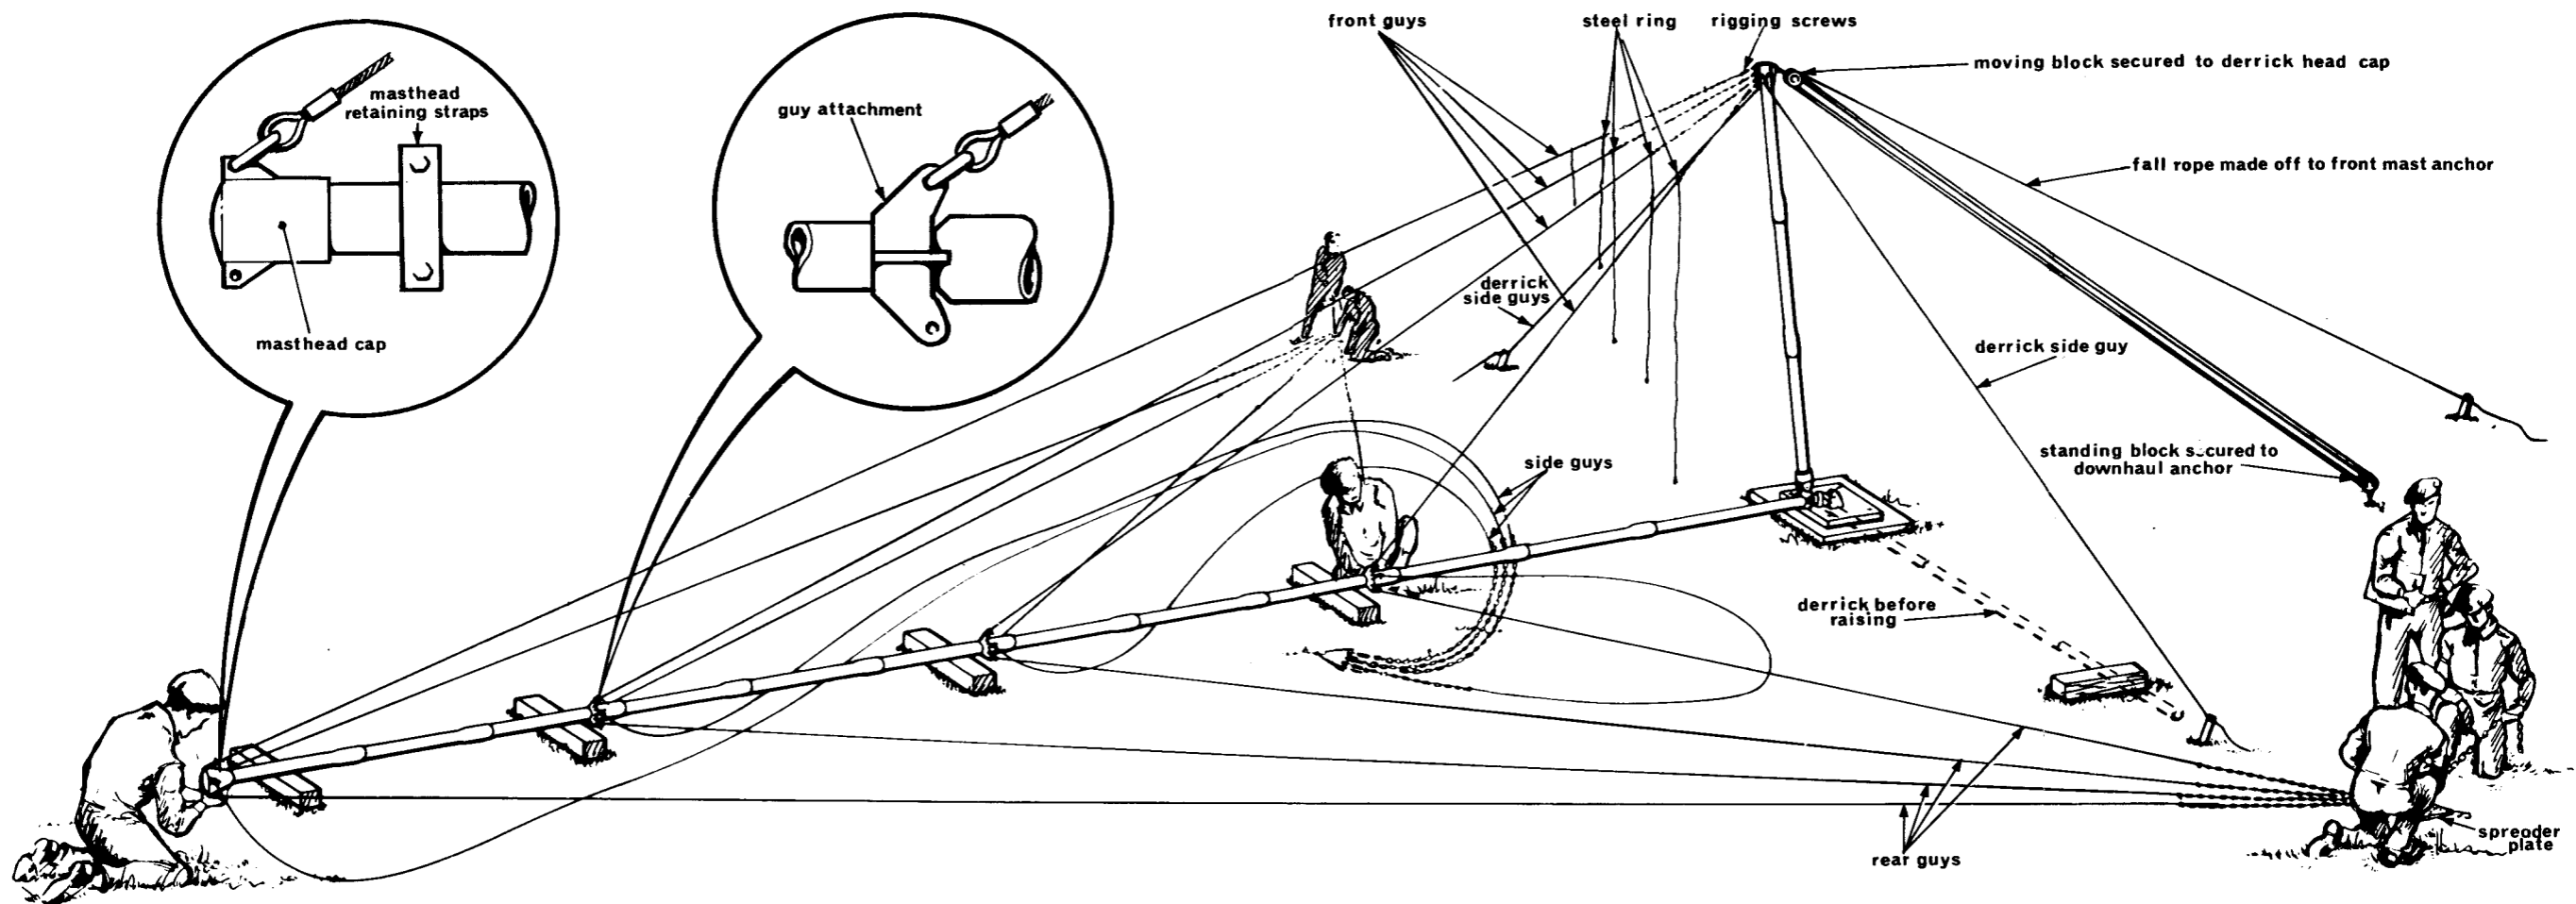

Fig. 14.23 Mast raising—Initial stages
- **Mast head cap.** The cap is a light alloy casting designed to fit over the unswaged end of the top mast section. The casting embodies the necessary lugs for the attachment of the upper mast guys (Fig 14.23).
- **Mast guy attachments.** The attachments are cast in the form of an alloy circular sleeve with projecting lugs for the attachment of the intermediate and lower guys. They are designed to slide on the appropriate mast section and rest on the swaged portion of the tube. For the S11/1 mast, the mast attachments rest on the swaged portions of the fourth, seventh and tenth sections from the mast base (Fig 14.23).
- **Retaining strap.** The strap is made from light alloy strip, semi-circular in form, two straps being bolted together to encircle the appropriate mast section (Fig 14.23). The pair of straps are secured by two hexagon head $\frac{3}{8}$ inch BSW bolts, nuts and washers.
- Add a further three mast sections and slide a guy attachment on the seventh section. Assemble three more mast sections, sliding a guy attachment to the tenth section and finally add the two remaining sections and fit the mast head cap. Bolt the mast retaining straps to the top mast section just below the mast head cap. During assembly support the mast approximately 150mm (6in) off the ground on blocks at the guy attachment positions (Fig 14.23).
- Secure the moving and standing blocks of the erector tackle to the underside lug of the derrick head cap and downhaul anchor respectively, using 9.5mm ($\frac{3}{8}$ in) 'dee' shaped shackles and shackle pins, laying out the fall rope as necessary. Secure the eye ends of the side guys to the side lugs of the derrick head cap with 9.5mm ($\frac{3}{8}$ in) harp shaped shackles and shackle pins and lay out the side guys to their respective Type 36 pickets (Fig 14.23).
The ends of the guys are connected to their respective guy attachments and mast head cap using 'dee' shackles and 9.5mm ($\frac{3}{8}$ in) shackle pins (Fig 14.23).
- Using the chains and rigging screws with 'dee' shackles and $\frac{3}{8}$ inch BSF shackle pins, secure the front guys to the derrick head cap. Shackle one end of the chain to the steel ring on the front guy allowing the short strap to hang loose and secure the rigging screw between the other end of the chain and the derrick head cap (Fig 14.23). Ensure that the guy chains are correctly located on the derrick head cap. Tension the guys sufficiently to maintain an angle of about 80 degrees between the mast and the derrick with the intermediate and bottom guys under tension to induce a sag into the mast during erection. Take up any slack in the rope between the tackle blocks and secure the hauling end to the mast front anchor.